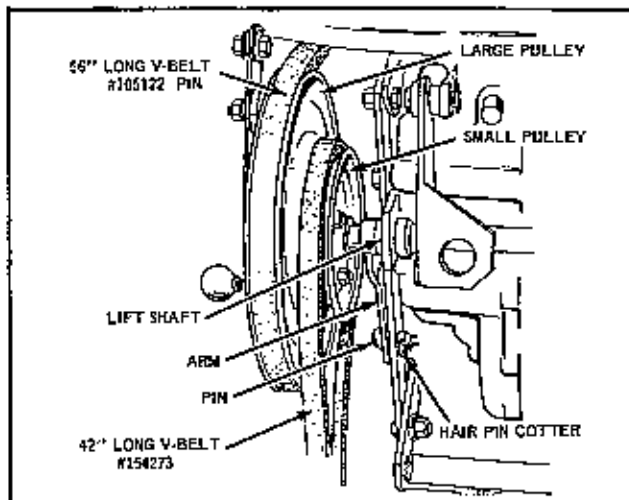
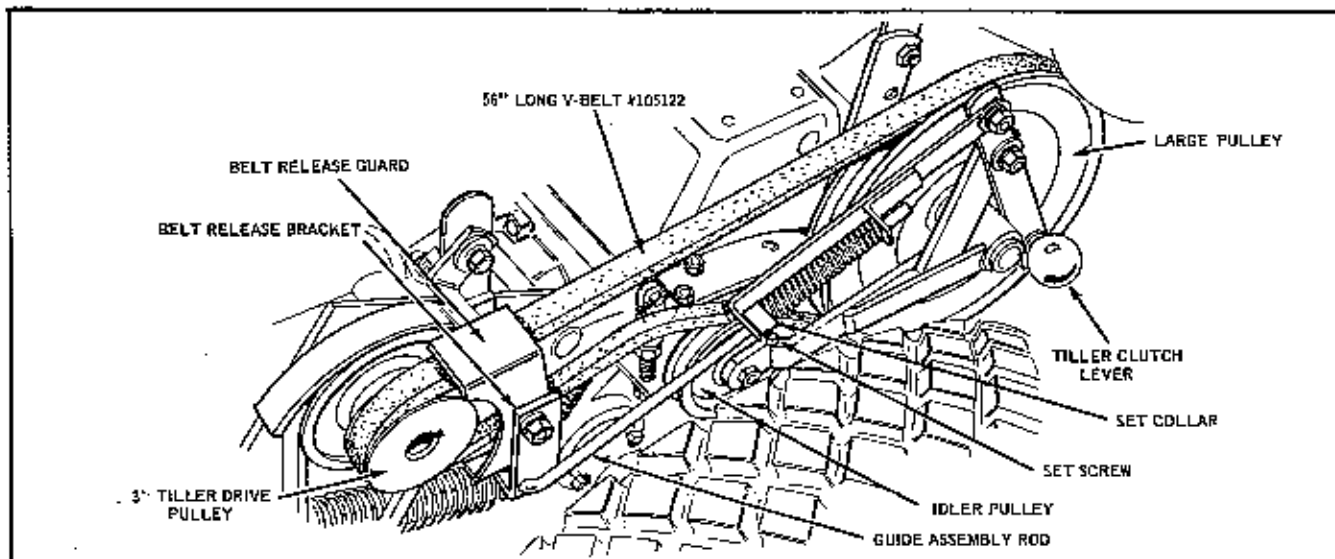

FIGURE 7
FIGURE 6
5. Place the 42" long V-belt #154273 in position on the smaller pulley of the tiller drive assembly and mount the tiller drive assembly onto the lift shaft as shown in Figure 6. As is shown in Figure 7, the arm of pulley sleeve assembly is held in place against the left side bracket of the tractor tow assembly by means of a hair pin cotter and pin.
Place the free end of the 56" long V-belt #105122 in position on the large pulley of the tiller drive assembly as shown in Figure 6.
6. Place the off-set end of the guide assembly rod into the hole in the belt release bracket and fasten in place with a hair pin cotter. See Figure 6.
4. Pull up on the tiller clutch lever handle to engage the tiller, and adjust the belt release guard so that clearance is equal on both sides of the belt. See Figure 6.
1. Adjustment of belt tension, for the V-belt running from the 3" pulley on the bevel gear shaft to the large pulley on the tiller drive assembly, is regulated by the set collar on the guide rod assembly. See Fig. 6. The tension should be correct when there is about 3/4" clearance between the collar and the bracket of the guide rod assembly when the tiller clutch lever is engaged.